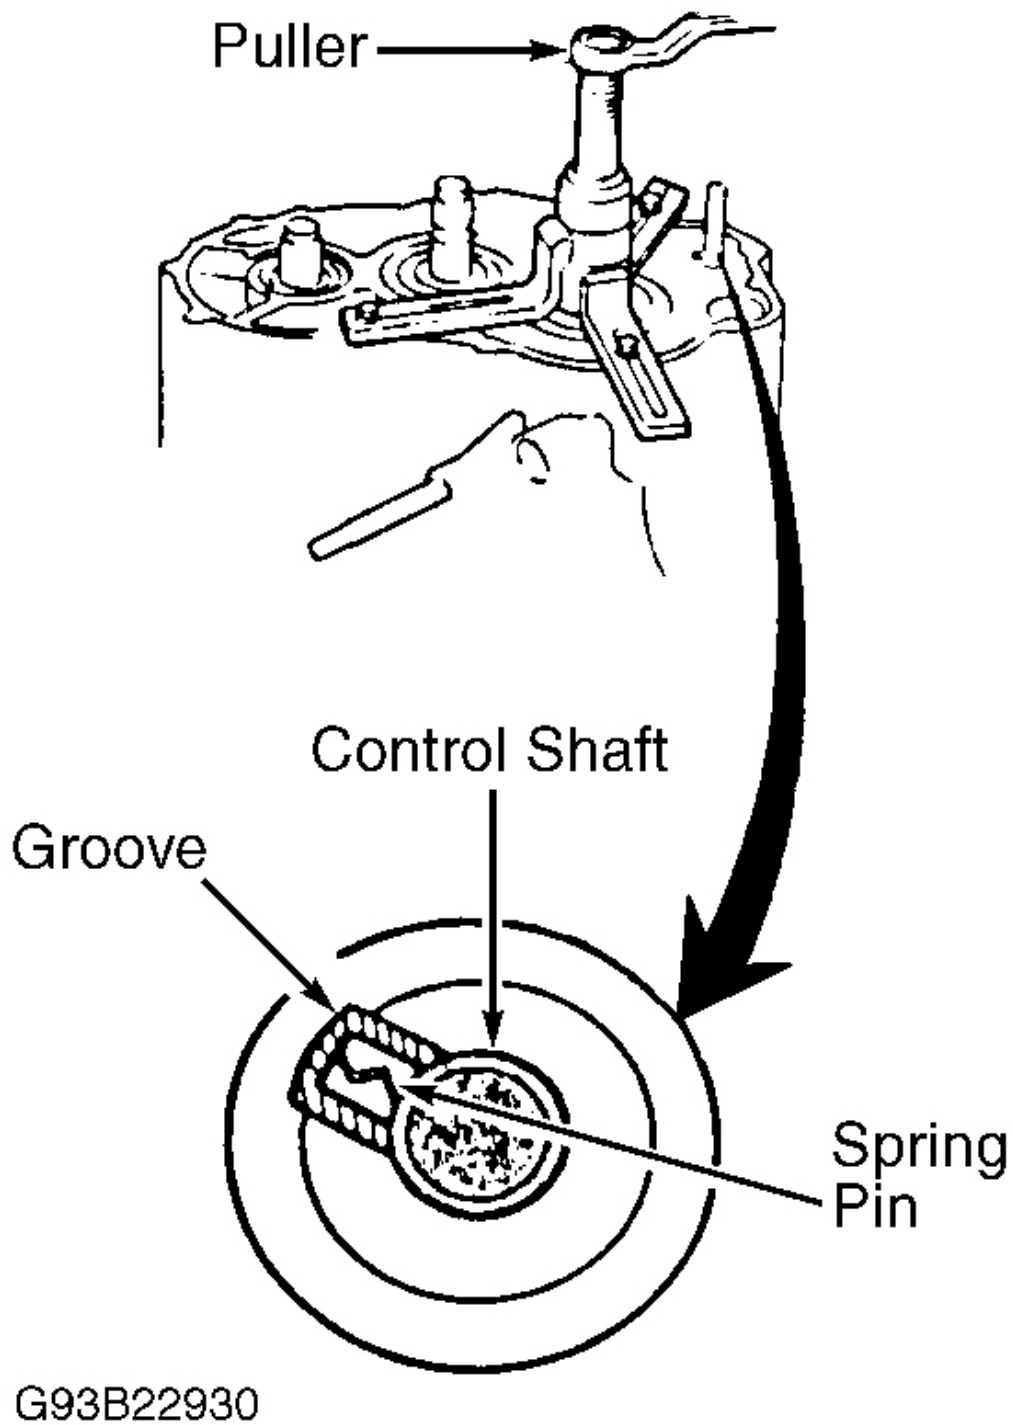

Fig. 10: Aligning Spring Pin & Removing Transaxle Housing
6. Align spring pin on control shaft with groove in transaxle housing by rotating control shaft. Using Puller (07HAC-PK4010A), remove transaxle housing. See **Fig. 10** . Remove gasket for transaxle housing.